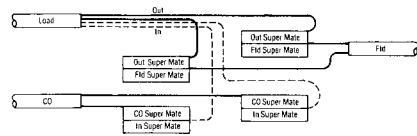

Fig. 13—Apparatus-Load Coil Splice (Two Bank)
- a. This splice is utilized where any "in" and "out" apparatus is required (i.e. load coil, carrier). See Figure 13.